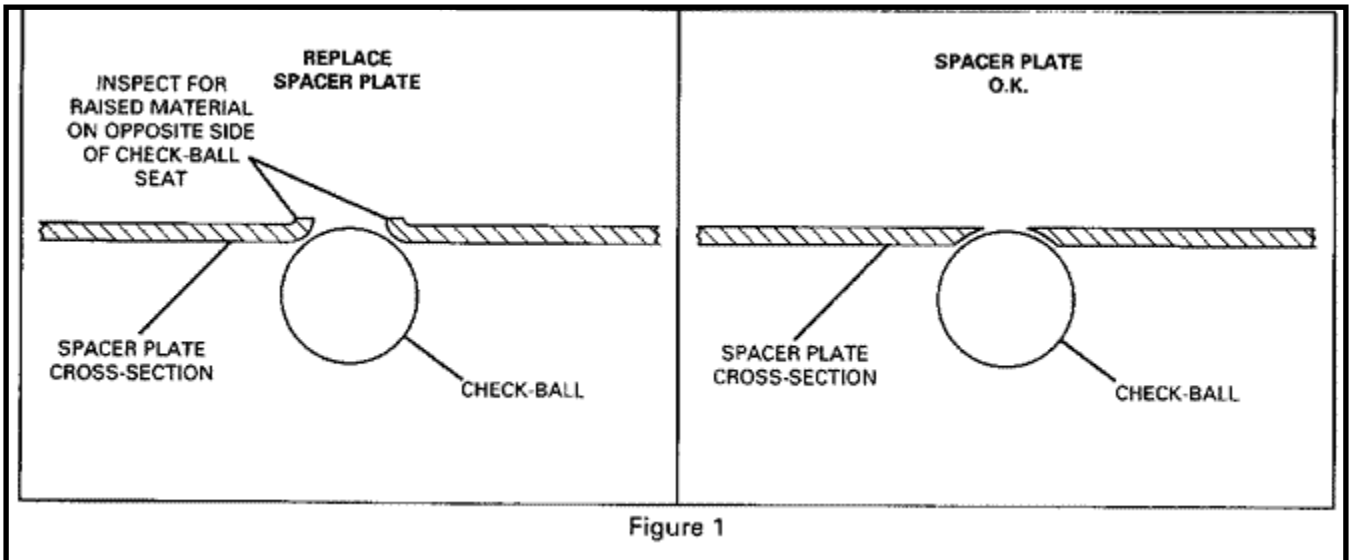

Figure 1
1. The spacer plate must be inspected 100% for raised material on the opposite side of the check-ball seat (see Figure 1) . If the material on the opposite side is raised, the peening is too severe and the spacer plate must be replaced.